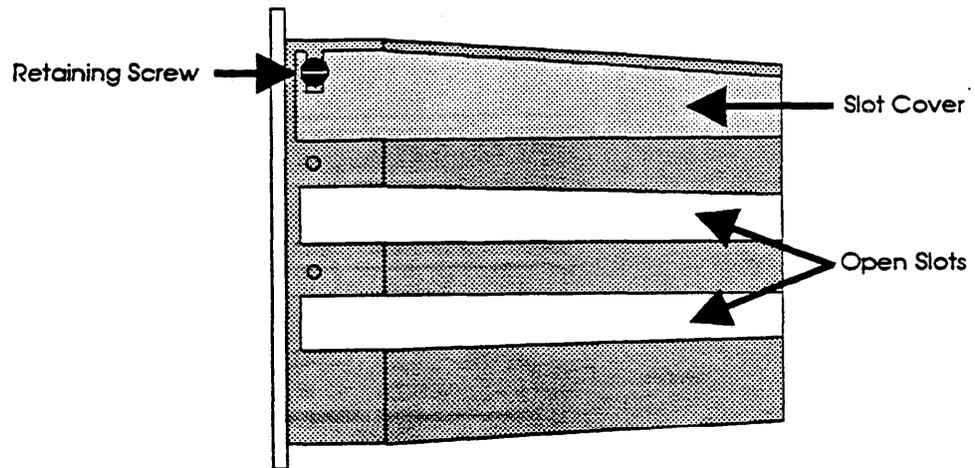

Figure 3-19. Removing the Slot Cover / Securing the Board
6. Remove the card bracket screw holding the slot cover in place and remove the slot cover as shown in Figure 3-19. (Save the slot cover for use if the board is removed.)
9. Secure the board in place by using the same card bracket screw in the mounting bracket that was removed from the slot cover as shown in Figure 3-19.